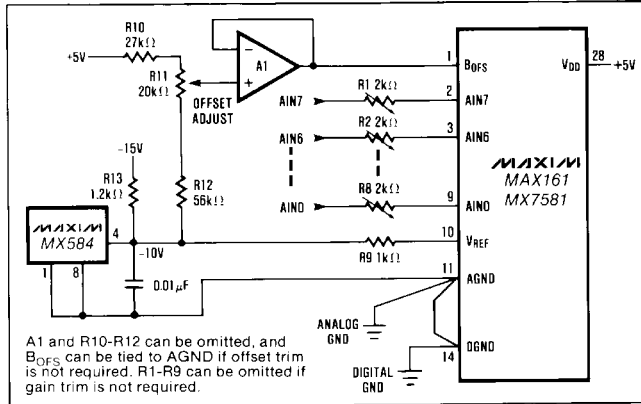
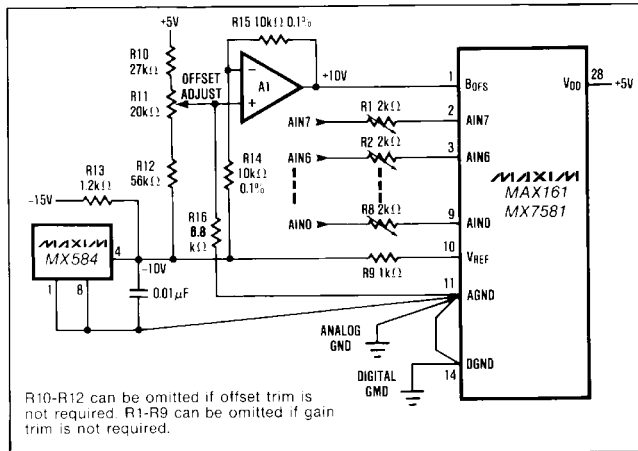
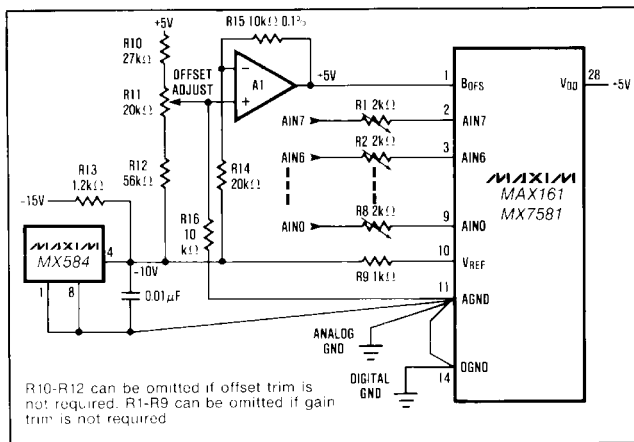

Figure 5. Unipolar (0 to +10V) Operation
Figure 7. Unipolar (0 to -10V) Operation
Figure 9. Bipolar (-5V to +5V) Operation
| Output Code                            |           | See Figure 5See Figure 7See Figure 9  |      |             |             | Unipolar BinaryComplementary BinaryOffset Binary |
**Note 4.**  $R_{BOFS}/R_{AIN}$  mismatch causes transfer function rotation about positive full scale. The effect is an offset and a gain term when using the circuits of Figure 7 and 9.
For the following circuits, the offset and gain adjustments shown in Figures 5, 7 and 9 are often not needed (The offset and gain error of the MAX161C are 1LSB and 2LSB respectively). In those cases, A1 and R1-R12 can be omitted. Note that in all cases where full scale is adjusted, offset must be trimmed first.
Figures 5 and 6 show the analog circuit connections and the resulting transfer characteristic for basic unipolar operation (0 to +10V input). A -10V reference is connected to pin 10 through resistor R9 and a clock is connected to pin 15. Calibration is as follows:
Figures 7 and 8 show the analog circuit connections and typical transfer characteristic for unipolar (0 to -10V input) complementary binary operation. Calibration is as follows:
Figures 9 and 10 show the analog circuit connections and typical transfer characteristic for ±5V bipolar operation. Calibration is as follows: